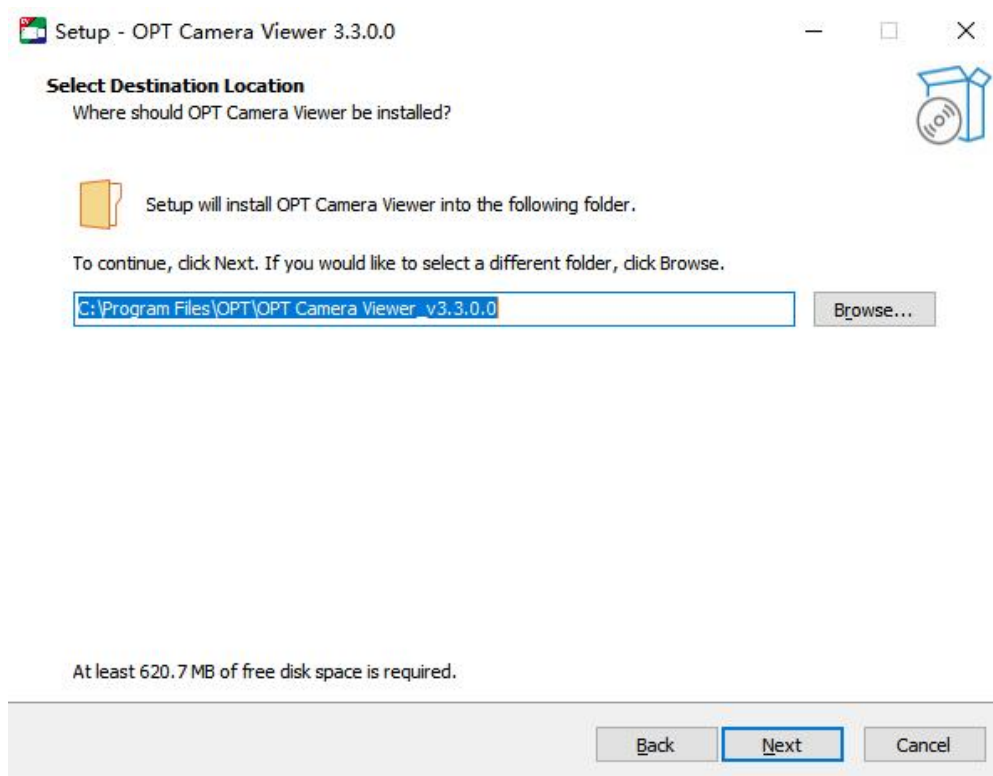

Figure 3-4 Installation folder window
5. Enter the installation folder window as shown in Figure 3-4, select the software installation path (default path: C: \ Program Files \ OPT \ OPTCameraViewer Demo) and click the next button to continue the installation process.